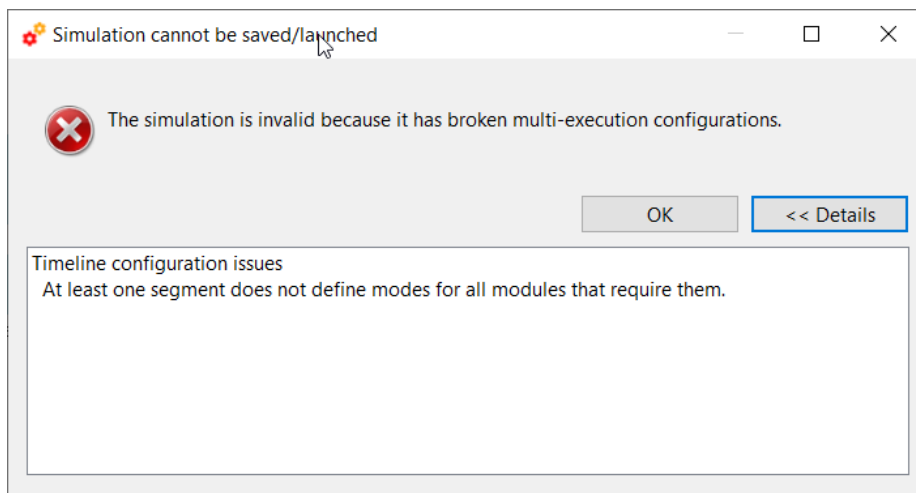

Figure 4-126: Execution prevented due to configuration issues
- If any parameter has been added or deleted from the configuration files of any active module involved in the simulation, the execution will not be carried out, and a dialog will be displayed listing the configuration issues as shown in Figure 4-126. See section 4.4.2.6 for details.